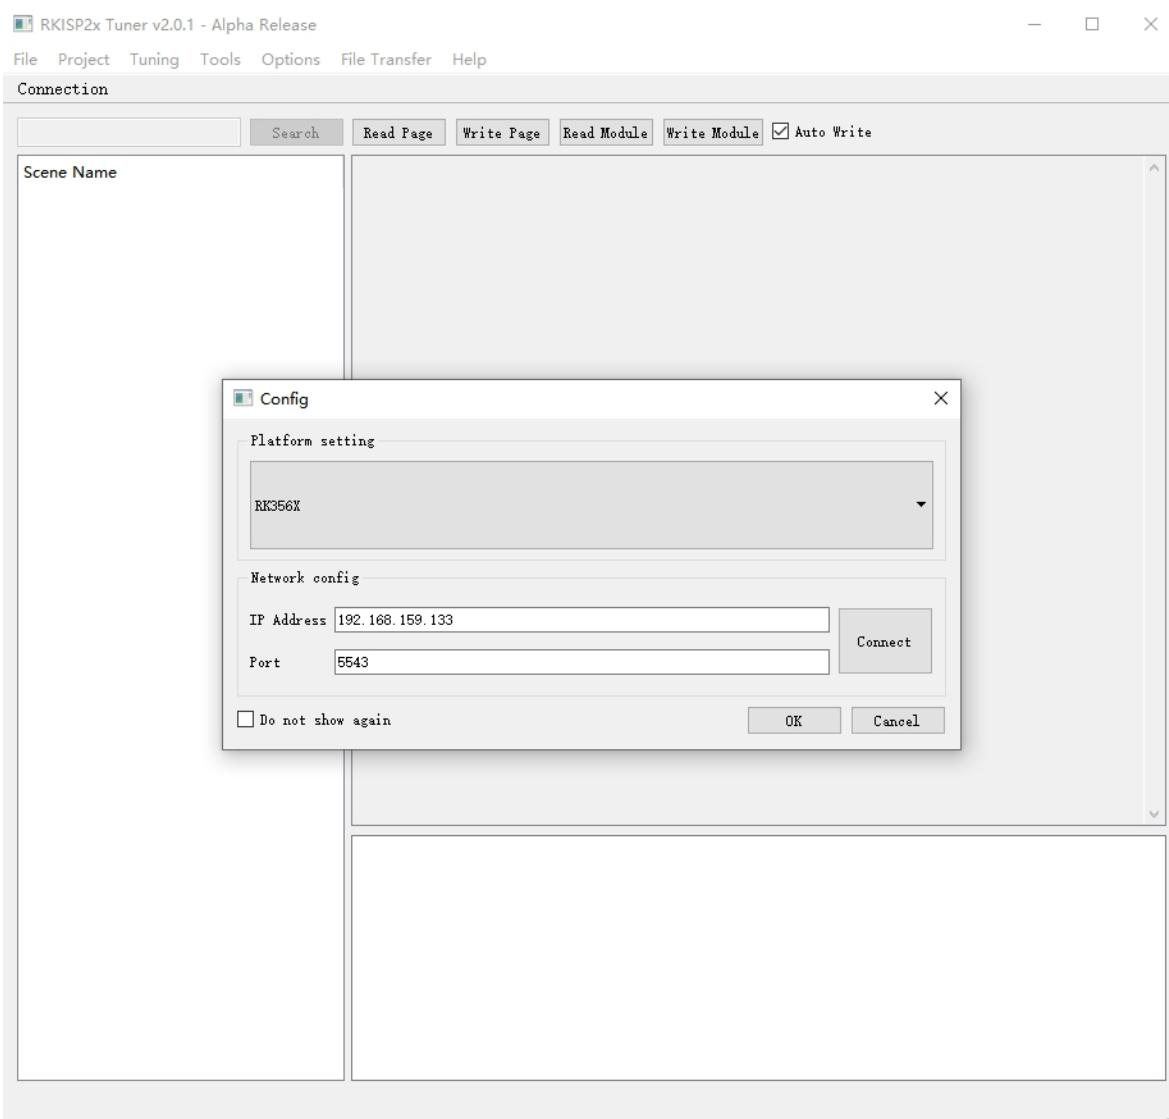

Figure 3-2-1
1. Opening the RKISP2.x Tuner will display the initial configuration screen, as shown in Figure 3-2-1;